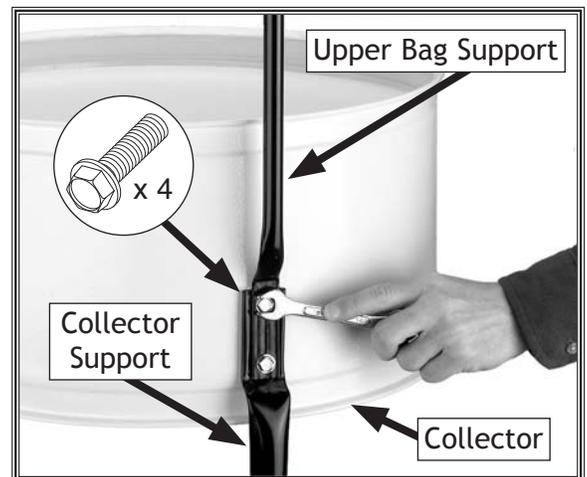

Figure 16. Mounting collector to brackets.
12. Place an upper bag support over a collector support and secure it to the collector with (2) $\frac{5}{16}$ "-18 x $\frac{1}{2}$ " flange bolts, as shown in **Figure 16**.